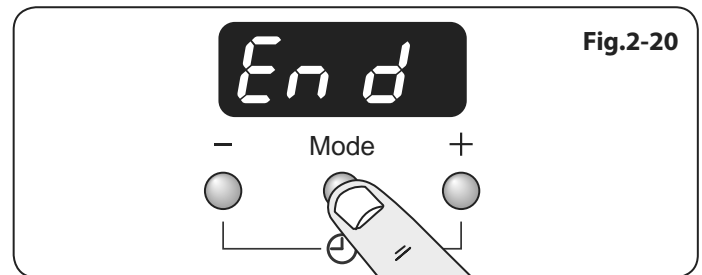

Fig.2-20
1. Press the mode [Mode] button, until the display flashes 'end' (Fig.2-20).